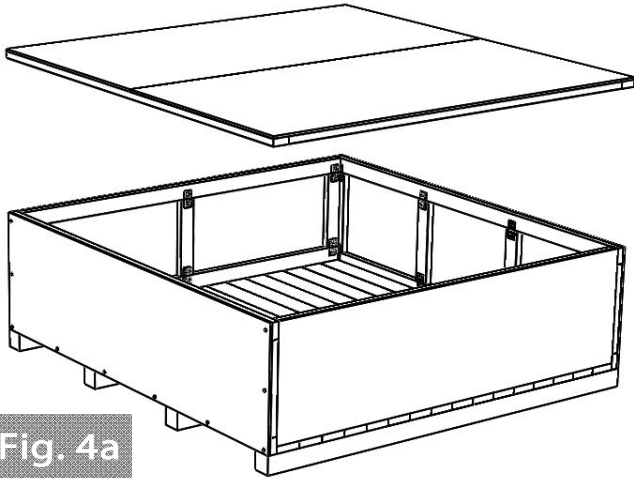

Fig. 4a
- Install lid as shown (fig. 4a)